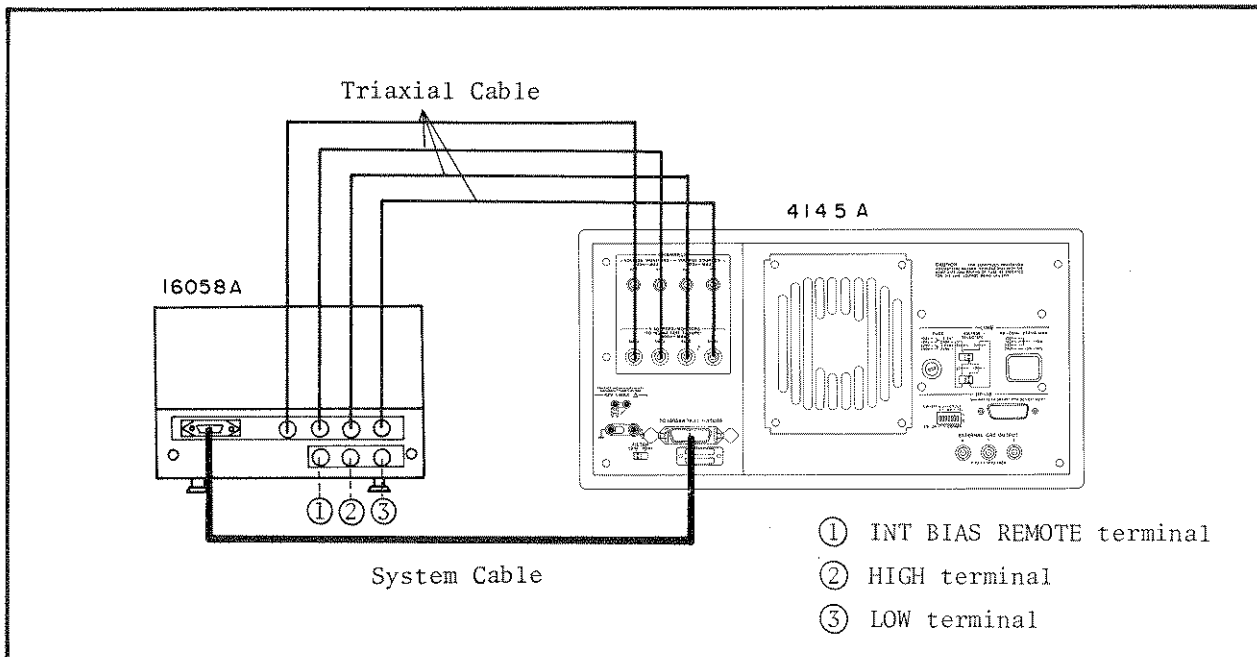

Figure 1. Connection between the 16058A and 4145A.
- 2) Connect the triaxial cables (Part Number: 16058-61603) to the triaxial SMU terminals (SMU1 to SMU4) of the 16058A and the appropriate SMU terminals on the rear panel of the 4145A as shown in Figure 1.
- 3) Connect the system cable (Part Number : 16058-61604) to the 24-pin connector of the 16058A and the connector labeled "To 16058A TEST FIXTURE" on the rear panel of the 4145A. See Figure 1.
3-7. The 16058A is also designed for systems applications of the 4145A. When an additional power supply is required, or when another measuring instrument such as capacitance meter (Hewlett-Packard Model 4275A, for example) is required, the HIGH and LOW terminals at the rear of the 16058A (see Figure 1) can be used for connection between the instrument and the 16058A. The fixture lid open/closed signal is provided from the INT BIAS REMOTE terminal (see Figure 1). Refer to Figure 2 for details on the 16058A's internal circuit.